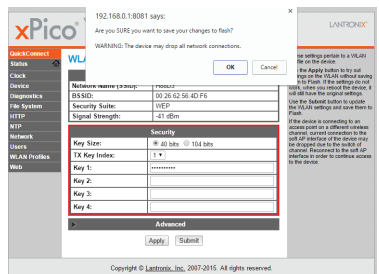

Figure 20: Complete Connection
9. Click on the OK button in the dialog box. Ignore the displayed warning during the final process. **Note:** The device in the warning is XPicoWiFi. See Figure 20.